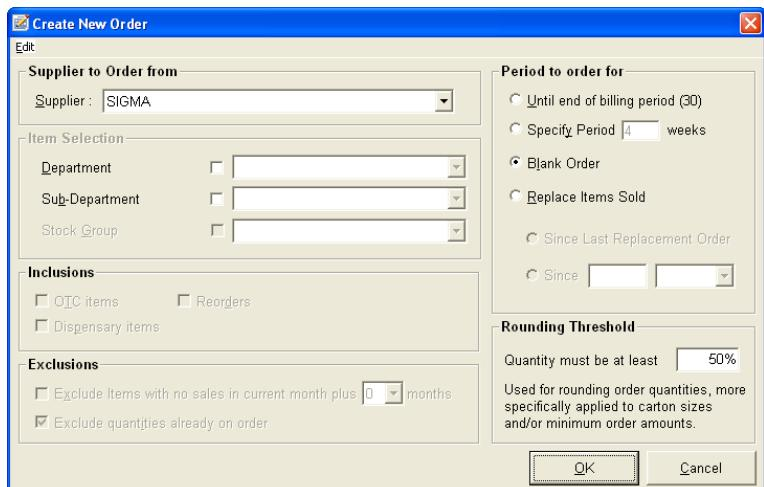

Figure 280
3. The 'Create New Order' screen will then display (as shown in Figure 280).